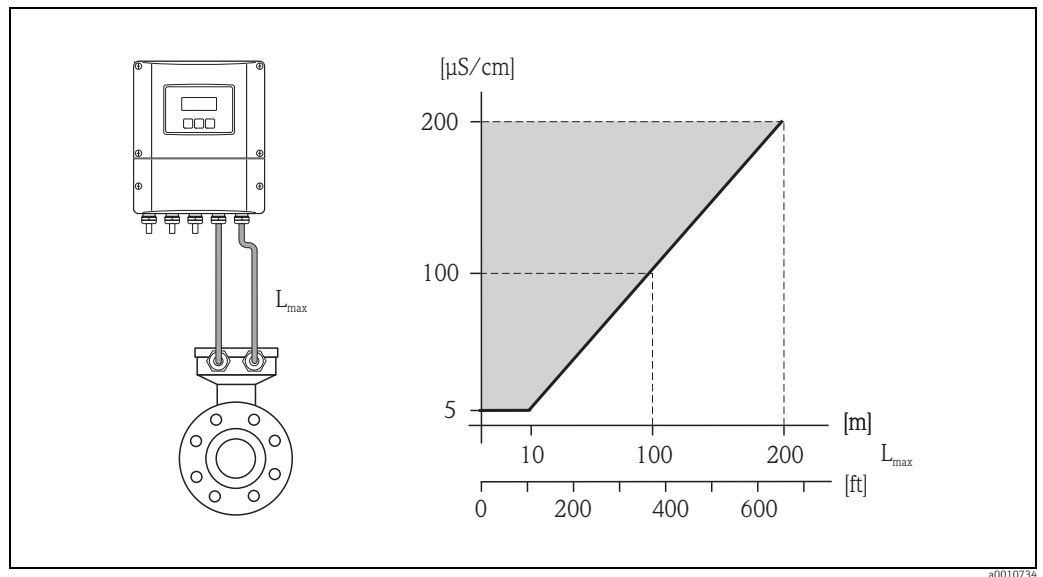

Fig. 16: Permitted lengths for connecting cable in remote version, as a function of the conductivity of the fluid
- The permissible cable length $L_{\max}$ depends on the fluid conductivity ($\rightarrow$ Fig. 16).